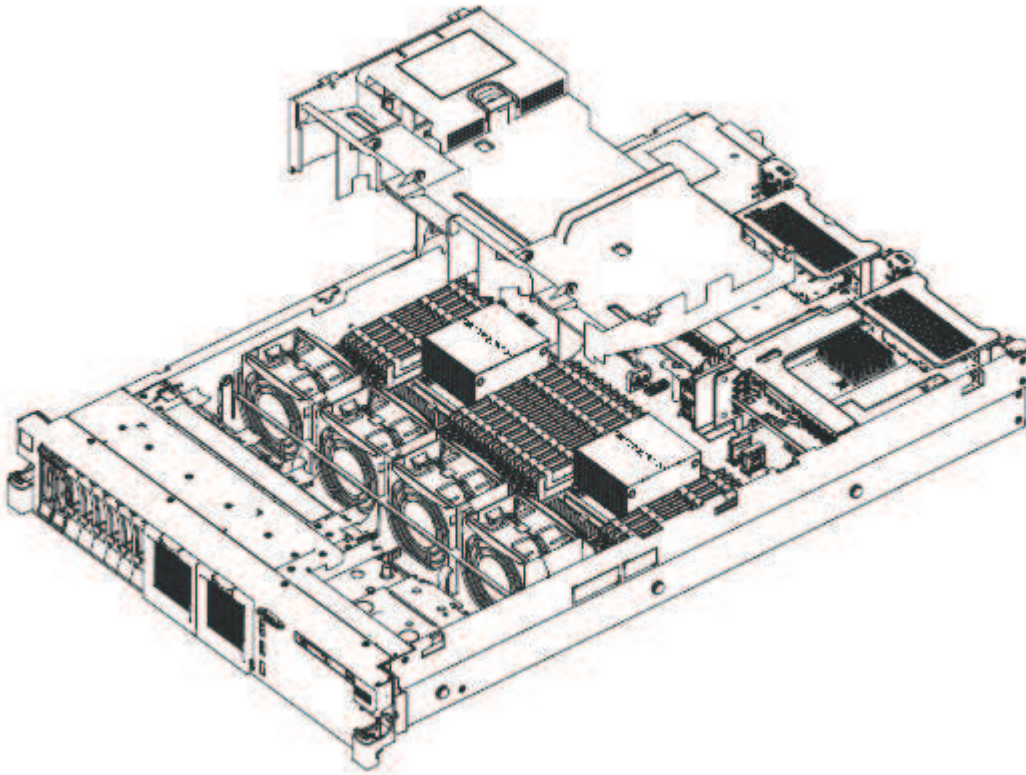

Figure 86. Replacing the air baffle
3. Lower the air baffle into place, as shown in Figure 86 on page 109, making sure that all cables are out of the way. Press the air baffle down until it is securely seated.